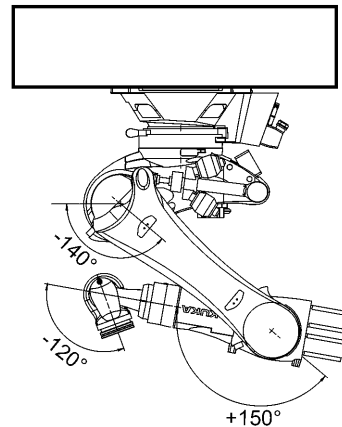

Fig. 12-3: Transport position
3. Put the robot into operation and move it into the transport position (>>> Fig. 12-3).